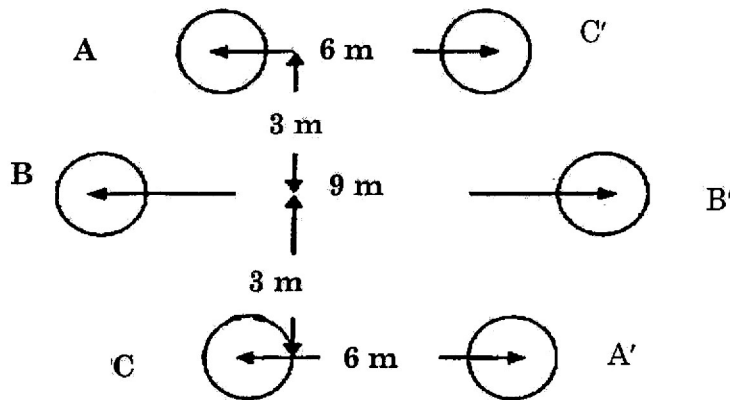

Figure 12-b
- b) A three phase circuit line consists of 7/4.5 mm hard drawn copper conductors. The arrangement of the conductors is shown in Figure 12 b). The line is completely transposed. Calculate inductive reactance per phase per km of the system.